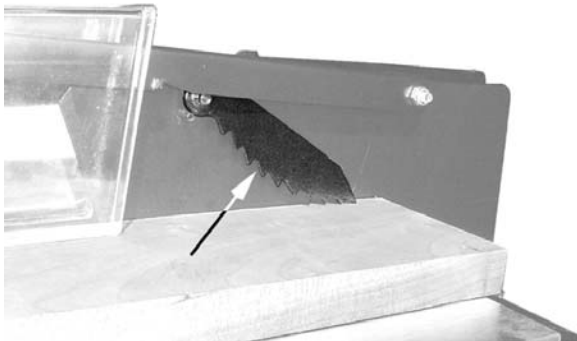

Figure 29
- ❑ As the machine receives use, the operation of the anti-kickback pawls should be checked periodically (Figure 29). If the pawls do not stop the reverse motion of a workpiece, sharpen all the points.